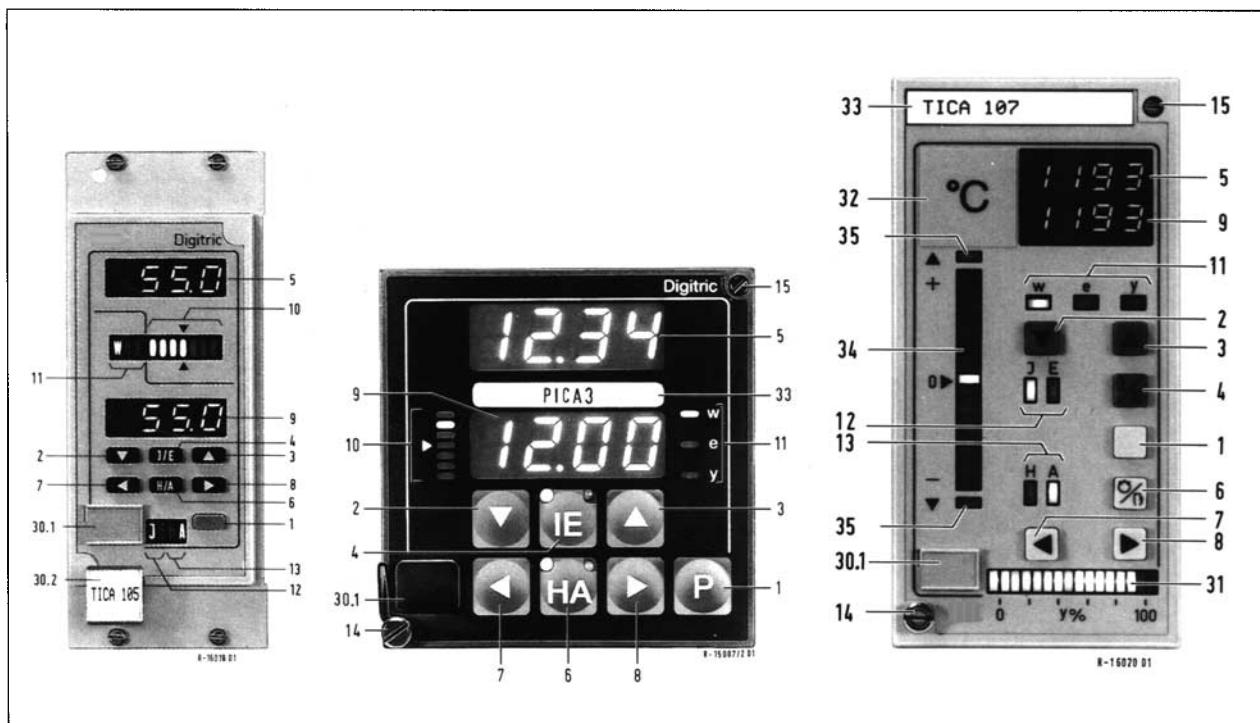

Fig. 1 Front view and standard function of the manual control elements
1) The numbers in brackets () and the key symbols refer to the front views in Fig. 1. The front views are also shown on the rear fold-out page.